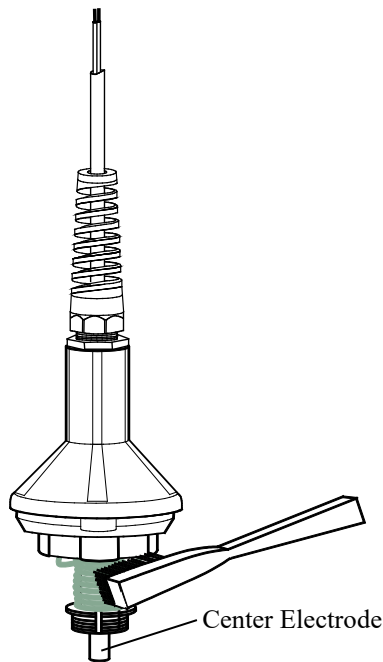

FIGURE 8-3. Using a toothbrush to clean sensor
- To clean, immerse the top part of the sensor in distilled white vinegar (3% acetic acid) for about 30 minutes. If vinegar is unavailable, use a soft toothbrush, automatic dishwasher detergent, and clean water to clean the cathode, anode, and plastic without touching the center electrode. Rinse all components thoroughly with clean water after cleaning (FIGURE 8-3).